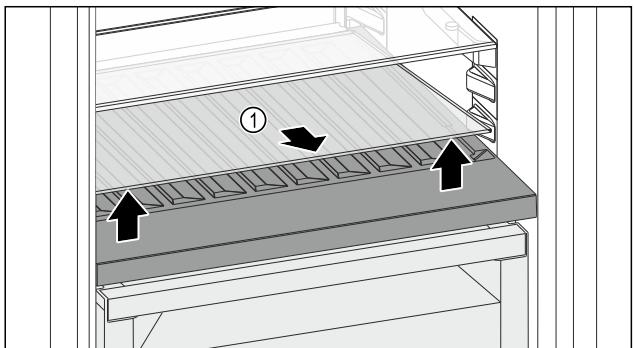

Fig. 98
- Lift the glass shelf Fig. 98 (1) at the front and remove.
- Store the glass shelf Fig. 98 (1) in a safe place outside the appliance.